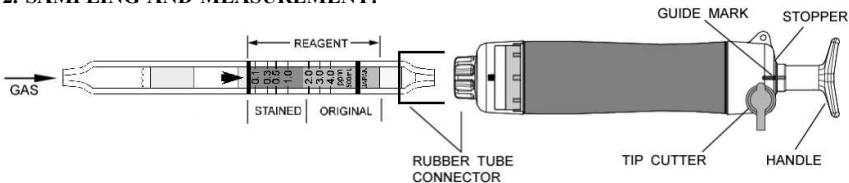

Fig.1
- ② Insert the detector tube into the aspirating pump securely as shown in Fig.1. (Arrow mark shall point to the pump.)
- ③ Align the guide marks on the shaft and stopper of the aspirating pump.
- ④ Pull the pump handle at a full stroke until it locks and wait for 1 minute or until the completion of sampling is confirmed with the flow indicator of the pump. (See descriptions about the flow indicator in the instruction manual of the pump.)
- ⑤ Push back the handle without removing the detector tube from the rubber tube connector so that air in the pump will be discharged perfectly. Then repeat the step ③~④ fourth more.
- ⑥ On completion of sampling, read the scale at the maximum point of the stained layer.
- ⑦ In case that the concentration is less than 0.1 ppm, push the handle without removing the detector tube from the inlet, and air in the pump will be discharged perfectly. Then repeat step ③~④ fifth more. And multiply the reading value by 1/2.